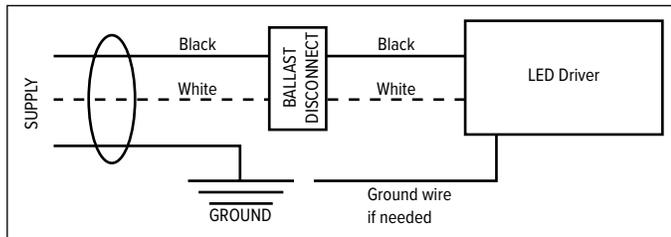

FIG 1
- Make sure the swing-out arms are collapsed, setting against the fixture housing. See FIG 1. With assistance, lift the fixture into the prepared ceiling opening.
- Locate the swing-out arm screws in the fixture housing, near where the door frame would rest in the fixture. See FIG 1. Tighten the swing-out screws to engage the swing-out arms so that they clamp onto the ceiling support structure. See FIG 2